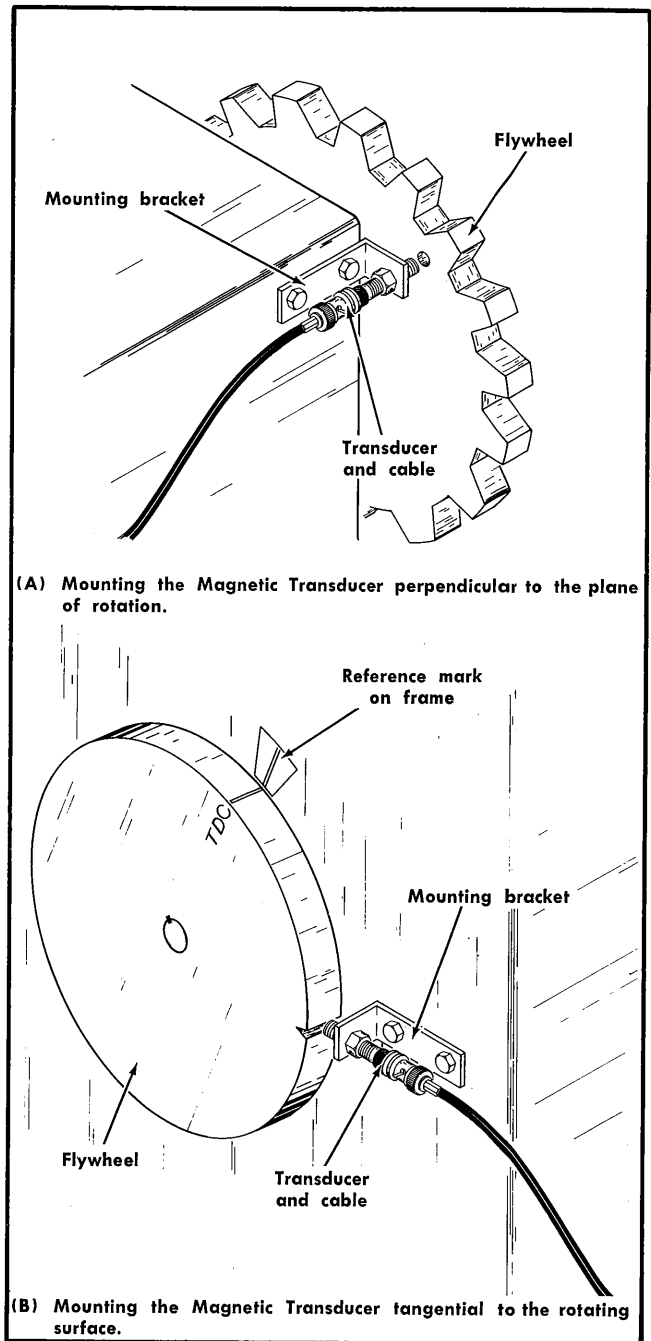

Fig. 2-13. Installation of the Magnetic Transducer.
Build a metal bracket of suitable configuration to mount the Magnetic Transducer immediately adjacent to the surface of the rotating reference point. It can be placed either tangential to the circumference, or at right angles to the plane of rotation, and can be installed permanently in place. See Fig. 2-13. (If it is located at right angles to the plane of rotation, the amplitude of the transducer output signal will vary directly with the distance between it and the center of rotation at any given speed of rotation.) Drill and tap a $\frac{3}{8}$ inch—24 UNF threaded hole in the bracket at the point where the transducer is to be installed. Rotate the crankshaft 360°, and note that no obstructions pass the point at which the pickoff is to be installed. Also check for concentricity of the rotating member if the transducer is to be mounted tangentially. Or check for wobble if the transducer is to be mounted at right angles to the plane of rotation. Screw the transducer nut all the way on the transducer. Screw the transducer into the bracket and fasten it in position by locking the transducer nut against the bracket.
If the transducer is to be installed at any point other than at a top-dead center reference on the frame or mounting, additional alignment consideration must be made. Proceed as follows: Align the rotating top-dead-center reference point with the chassis or frame top dead center reference point. Install the transducer in the desired location. Provide a transducer reference on the rotating surface so that it is aligned with the end of the transducer. The piston top-dead-center mark and reference will then be in alignment at the same time as the transducer and its reference as shown in Fig. 2-13 (B). A signal will be generated each time the piston passes through the top-dead-center position. Use caution so that neither the transducer or rotating reference material strike (or are struck by) other protuberances.